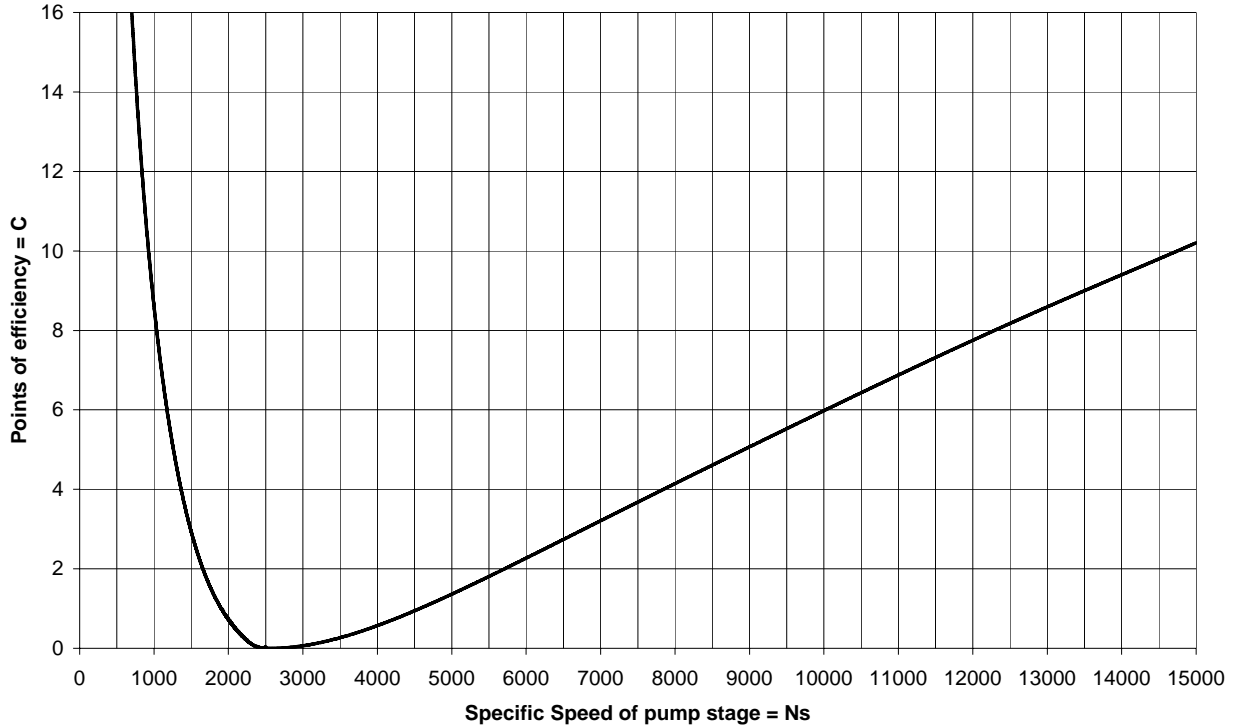

Fig 9.
A guide to the number of points of efficiency (C) to be added to a quoted efficiency figure in order to bring it to around the value of a pump of the same flow but of Optimum Specific Speed is provided by Fig 9. (Note that ‘one point of efficiency’ is defined as the difference between, say, 66% and 67%.)
| Value of C from Fig 9: | 5. |